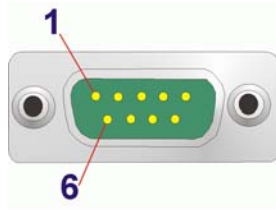

Figure 3-15: RS-422/485 Serial Port Pinout Location
- CN Pinouts:** See Error! Reference source not found. and **Figure 3-15**